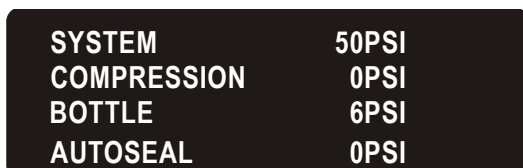

Figure B-4. Regulators Screen
3. Select **REGULATORS** and press **ENTER** to display the **REGULATORS** screen (see Figure B-4).